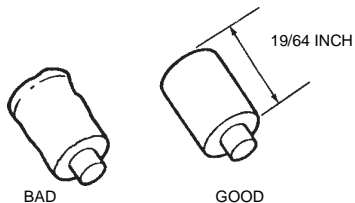

Figure 3.3.9
- A. Visually inspect the carbon brush. Overall length of the carbon brush must be greater than 19/64 inch and the OD of the brush diameter must be uniform. (See Figure 3.3.9). Carbon brushes that do not meet these limits must be replaced. Reference Section 7.13 of this manual.